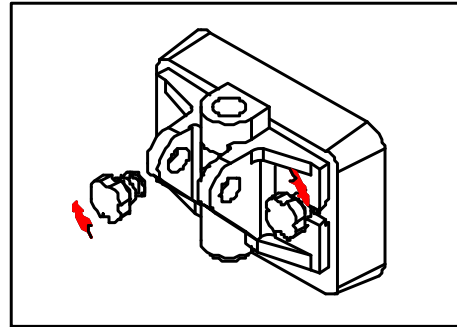

Figure 6-4
Step 3 Install the dispensing door (Figure 6-4).